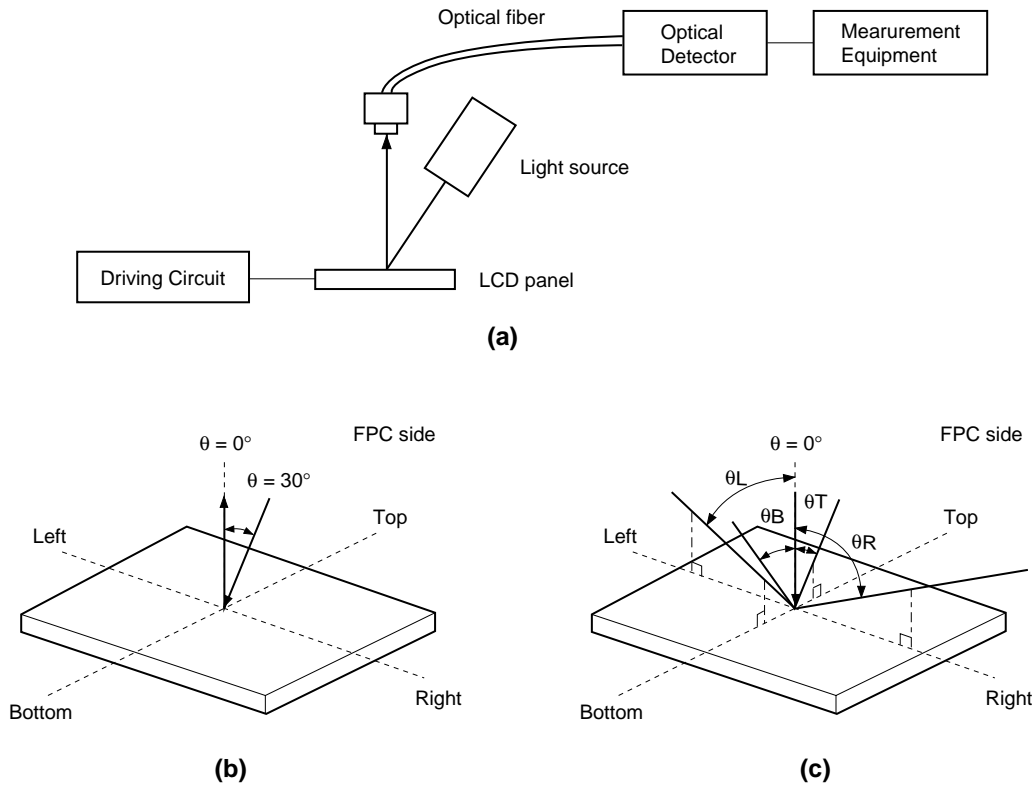

Fig. 1. Measurement system-1
1. Reflectivity (R)
In the Measurement system-1 (see Fig. 1 (a), (b)), calculate the reflectance factor by using the formula (1).
2. Contrast ratio with front light turned off (CR)
In the Measurement system-1 (see Fig. 1 (a), (b)), measure the reflectance factor of "White" and "Black" respectively and calculate by using the formula (2).
In the Measurement system-1 (see Fig. 1 (c)), viewing area is defined by the area which makes the $CR \geq 2$.